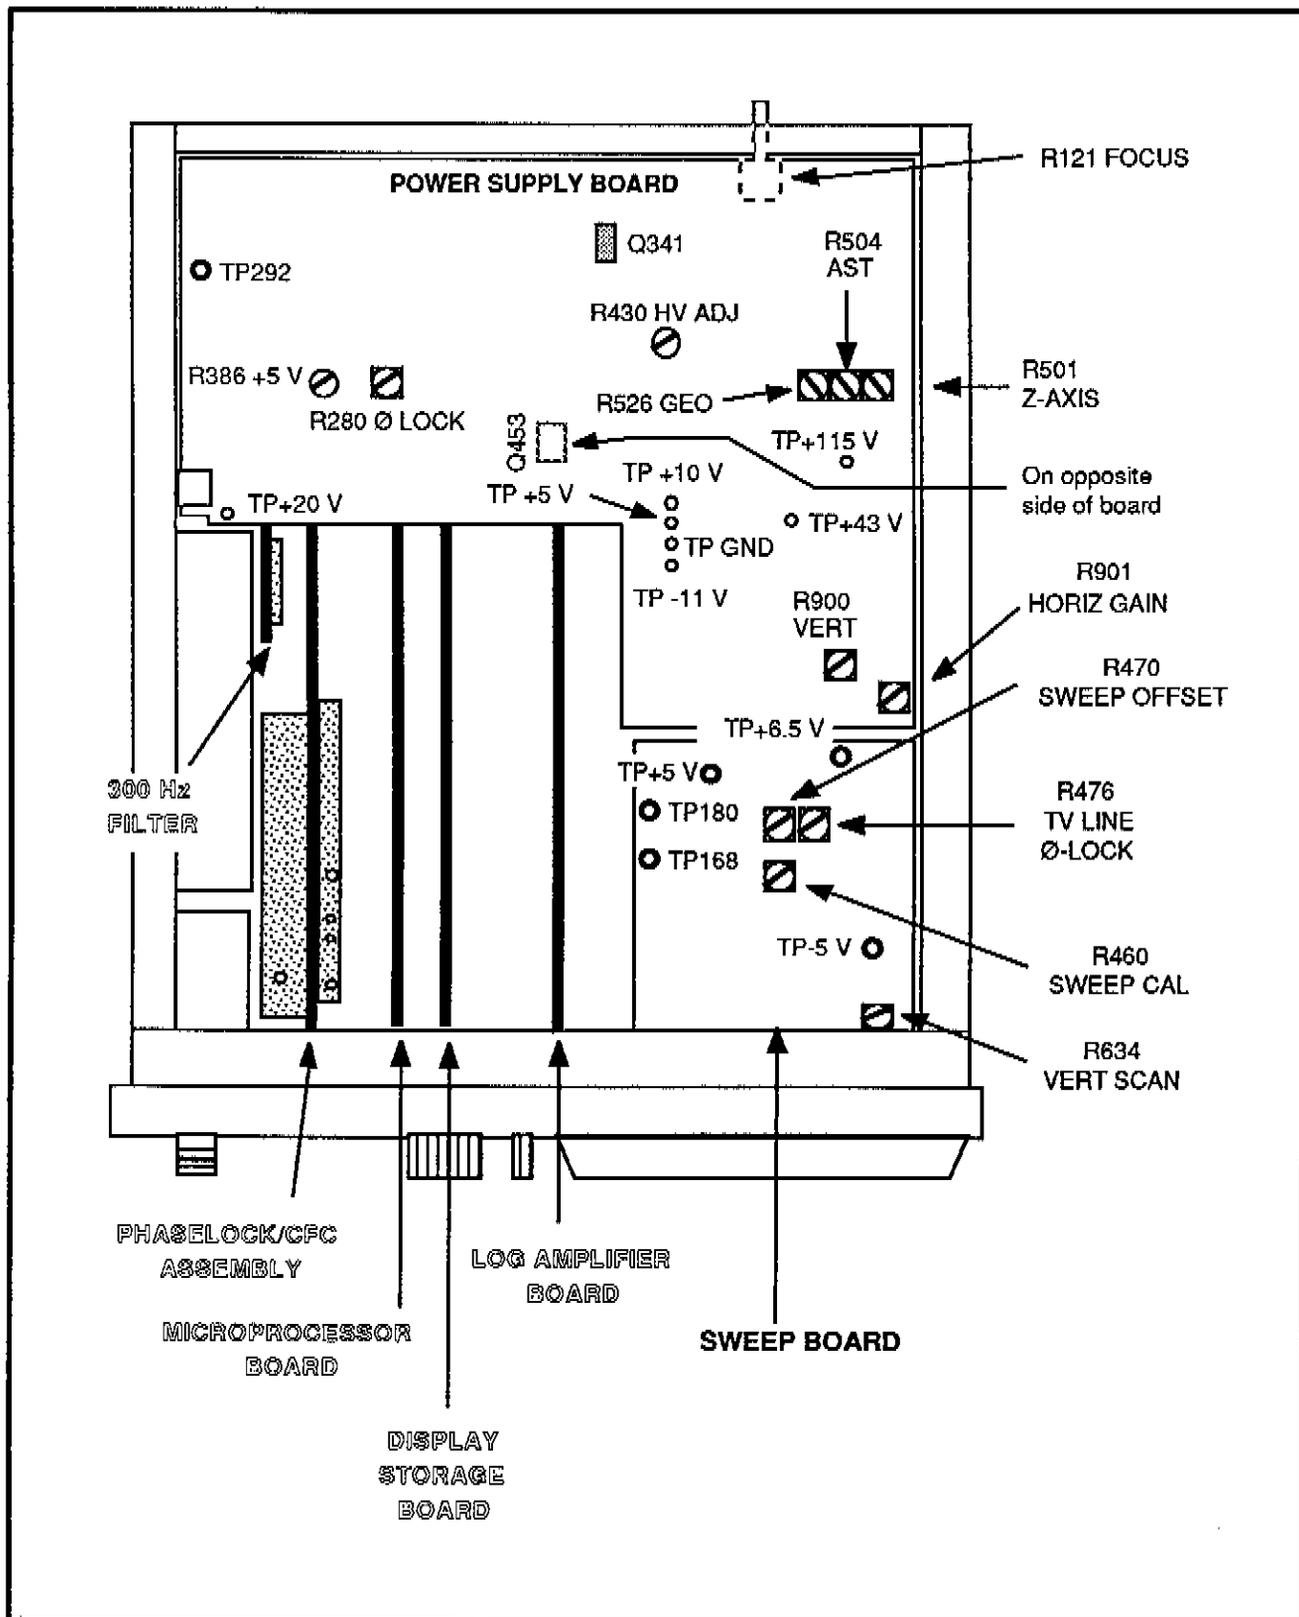

Figure 4-1. Adjustment and test point locations on the Power Supply and Sweep boards.
Refer to Figure 4-1 for the location of all adjustments and test points.
- d. Check the other supply voltages at the test points indicated in Figure 4-1 against tolerances listed in Table 4-2.
(1) Voltmeter
- b. Monitor TP168 with the voltmeter. See Figure 4-1.